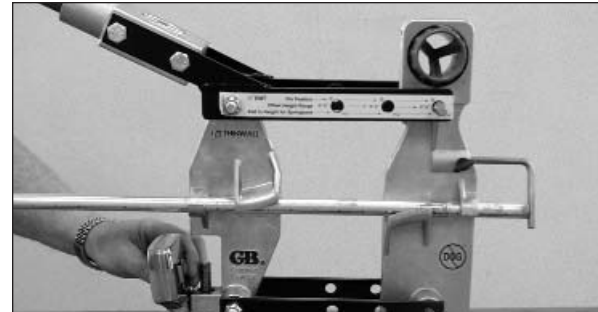

Figure 3
6. Set the bend stop screw adjustment by turning the screw until the distance between the bottom of hex head and the bottom of the frame is the offset height plus the fractional number on the decal. See Figure 3.